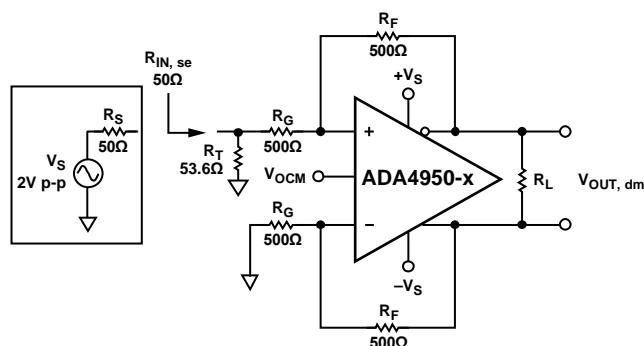

Figure 57. Adding Termination Resistor,  $R_T$
3. Figure 57 shows that the effective  $R_G$  in the upper feedback loop is now greater than the  $R_G$  in the lower loop due to the addition of the termination resistors. To compensate for the imbalance of the gain resistors, add a correction resistor ( $R_{TS}$ ) in series with  $R_G$  in the lower loop.  $R_{TS}$  is the Thevenin equivalent of the source resistance,  $R_S$ , and the termination resistance,  $R_T$ , and is equal to  $R_S || R_T$ .